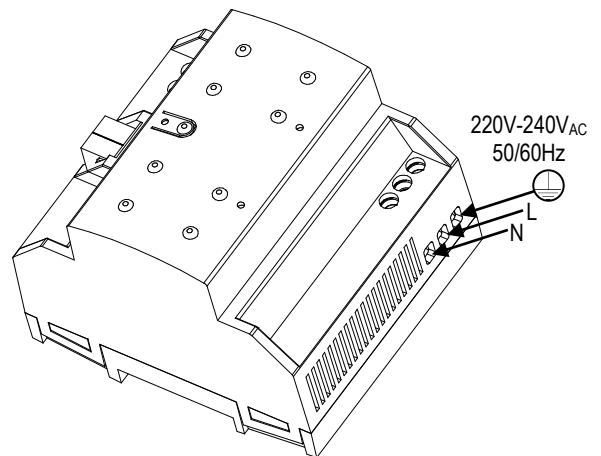

Figure 2: ZPS640MPA230 installation and connection
- Main power must be connected to L, N and ground terminals, in accordance with the schematic represented in figure 2.